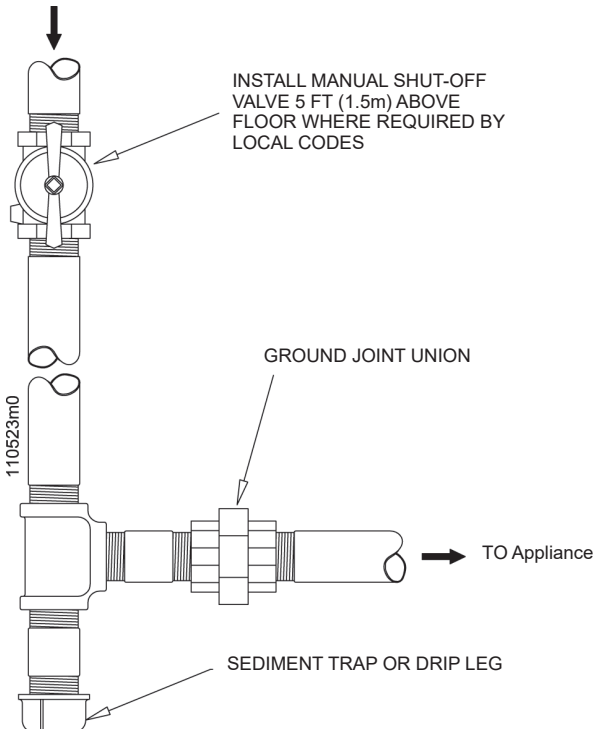

Figure 13-1 Gas supply piping
- 1.- Refer to Figure 13-1 to pipe gas to the appliance.
- 2.- Install sediment trap / drip leg. (see Figure 13-1);